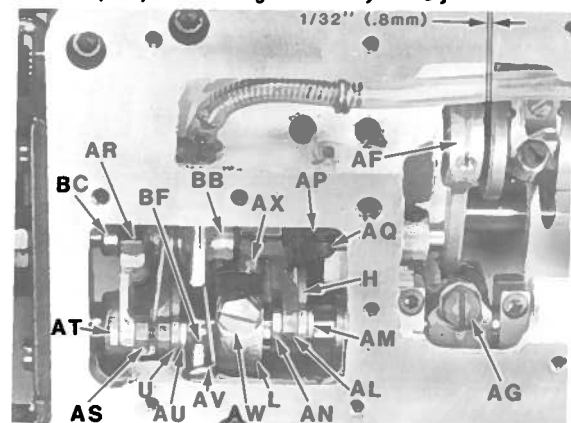

Fig. 24
4. With large oil hole facing upward and to the right, insert feed drive rocker shaft (AB) into casting. With main feed drive link (V) assembled to shoulder screw (S) in main feed bar (Q) and main feed bar guide block (P) positioned on differential feed bar (F), slide shaft (AB) through main feed drive (X), differential feed drive (L), inner casting wall and assemble (1) thrust washer (AC), (1) collar (AD), feed drive lever (AE), another collar (AD) and thrust washer (AC). Check to ensure large oil hole in right end of shaft is facing up and position shaft so its left end is recessed approximately 1/64 inch (.4mm) from outer edge of casting. Position collars (AD) and washers (AC) against inner walls of casting to remove any left to right movement of shaft (AB). Position lever (AE) on shaft (AB) to have approximately 1/32 inch (.8mm) between the edge of feed drive lever connecting rod (AF) and cheek of crankshaft as shown in Fig. 24. Tighten screw (AG) to 55 in. lbs. (63 cm/kg), rotate handwheel in operating direction to recheck clearance and assure there are no binds.
1. Remove screw (AM) and nut (AN) from differential feed control lever and position spring (AP) in place on differential feed control lever. Secure other end of spring with screw (AQ) as shown in Fig. 24.
2. Reconnect differential feed control link (H) to lever (AL) with screw (AM) and nut (AN).
3. Remove screw (AU) from main feed control link stud (AS) and position spring (AV) on screw (BF) as shown in Fig. 24. Reconnect main feed control link (U) to stud (AS) with screw (AU).